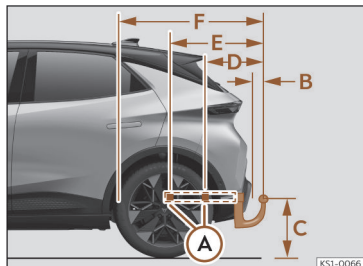

Fig. 172 Towing device: dimensions and attachment points.
The distance between the centre of the ball head and the road >>> **Fig. 172** (C) must never be less than that indicated. This also applies when the vehicle is fully loaded, including the technically permissible maximum vertical load on the coupling device.